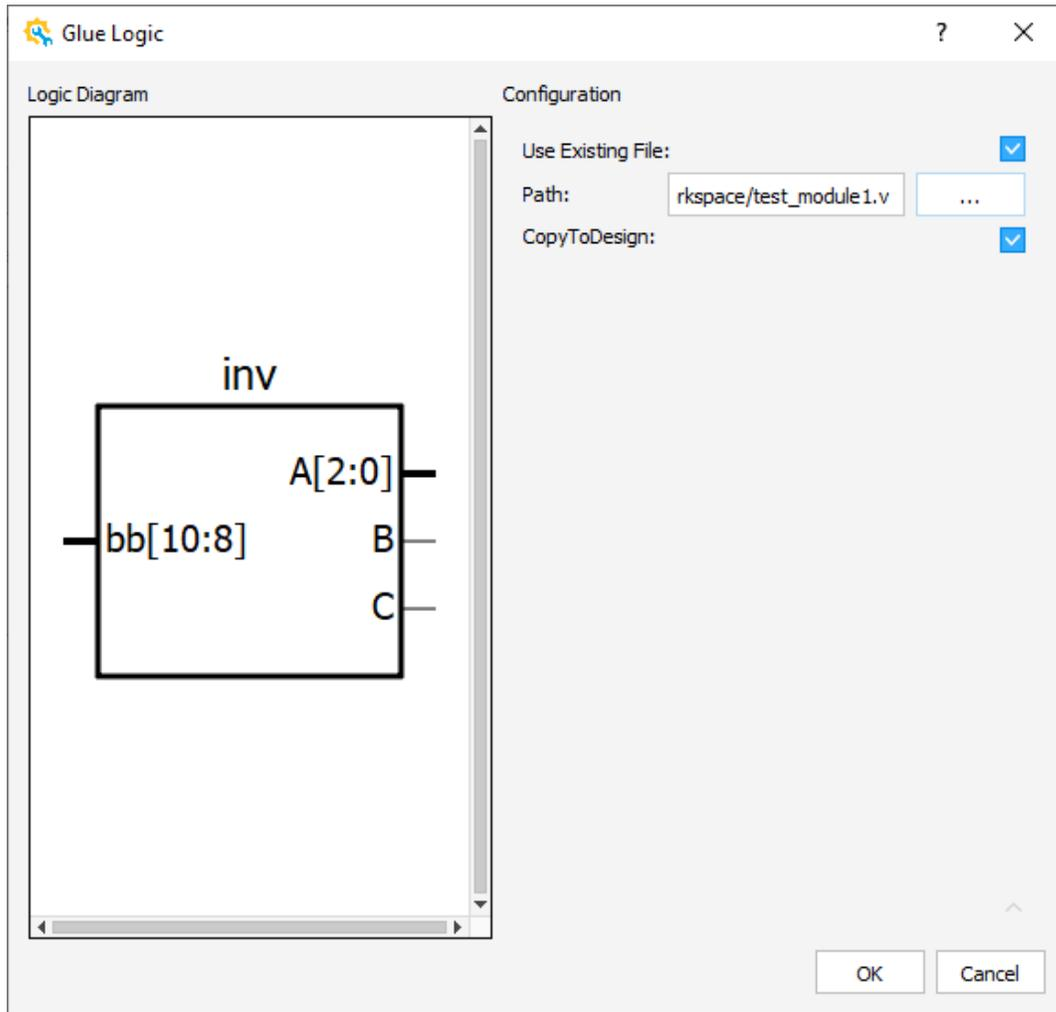

Figure 2.54. Existing RTL Module Configuration
3. Or, you can use an existing RTL module by checking the **Use Existing File** checkbox. After checking the Use Existing File checkbox (Figure 2.54), browse to find the existing RTL module file path from the **Path** field. If you use an existing file, RTL references that file from the source. If you do not use an existing file, RTL creates a new file called `<module name>.v`. If **CopyToDesign** is enabled, a copy of the original source is created in the Propel project under `<project>/lib/gluelogics/`, if not enabled, it is referenced from its current location.